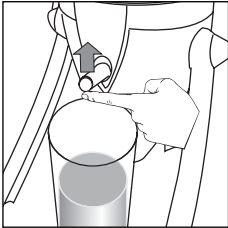

Fig.6
- When you have finished juicing, to reduce drips, move the non-drip spout to the raised position (fig. 6).